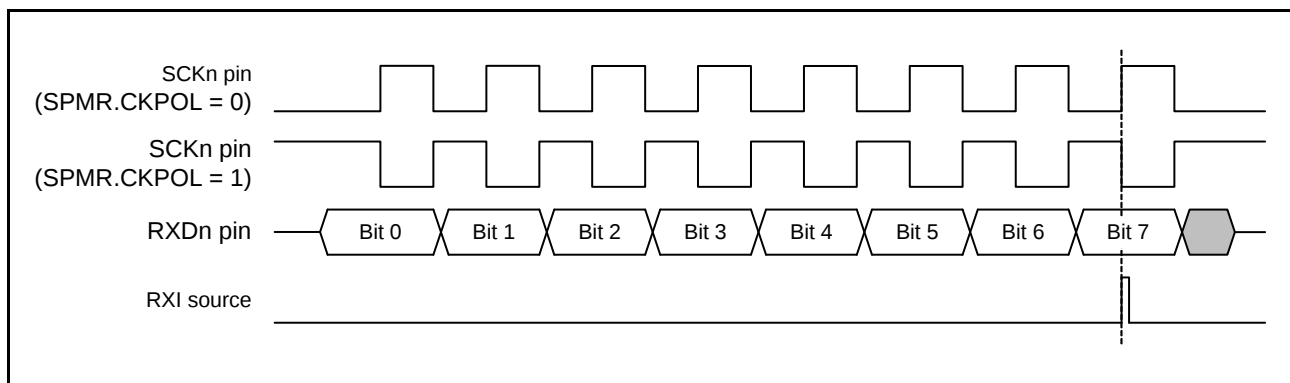

Figure 33.81 Timing of the RXI Interrupt in Simple SPI Mode (with Clock Delay)
- In the case of the setting for clock delay (SPMR.CKPH bit is 1), the receive data full interrupt (RXI) is generated before the final clock edge on the SCKn pin as indicated in Figure 33.81. If the TE and RE bits in the SCR register become 0 at this time before the final edge of the clock signal on the SCKn pin, the SCKn pin is placed in the high-impedance state, so the width of the last clock pulse of the transfer clock is shortened. Furthermore, an RXI interrupt may lead to the input signal on the SSn# pin of a connected slave going to the high level before the final edge of the clock signal on the SCKn pin, leading to incorrect operation of the slave.